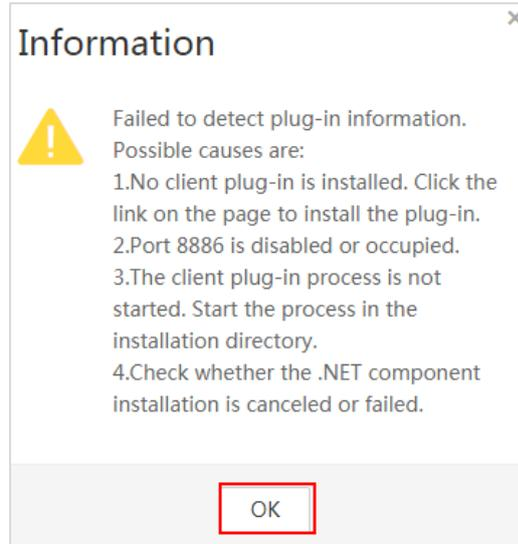

Figure 5-6 Message prompting for plug-in installation
- Log in to FusionCompute as local user admin and click **Import Template** in the navigation bar. If the system prompts you to install the plug-in, click **OK**, as shown in Figure 5-6.